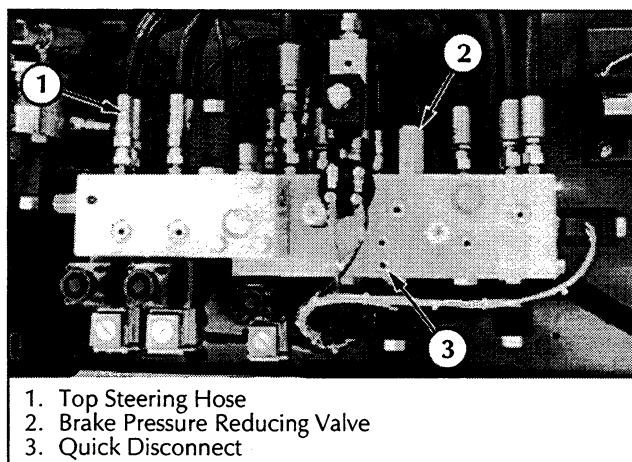

Figure 4-5: Hydraulic Manifold Assembly, Top View
2. Remove the gauge port plug (Figure 4-5) and install quick disconnect gauge assembly.
2. Remove the quick disconnect plug (Figure 4-5) and install a 0-600 psi (0-50 bar) pressure gauge assembly.
BRAKE PRESSURE REDUCING VALVE (Figure 4-5 & 4-6)
2. Remove the quick disconnect plug (Figure 4-5) and install a 0-3000 psi (0-250 bar) pressure gauge assembly.